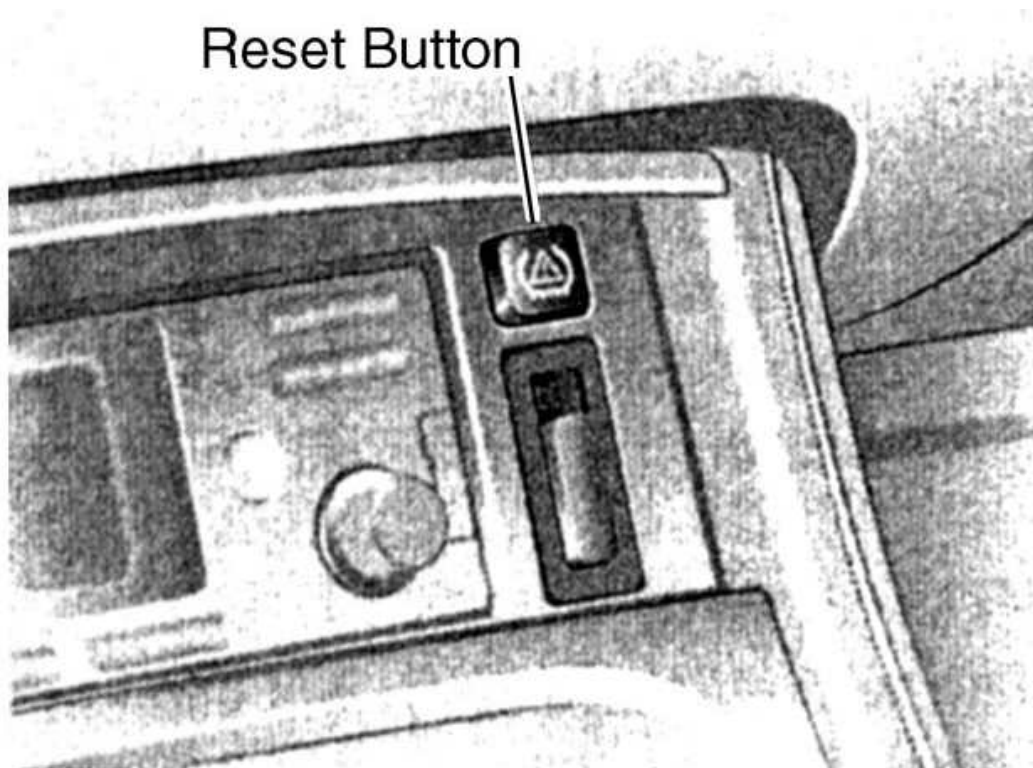

Fig. 10: Locating TPM System Reset Button (3-Series & X5 - Typical)
3. Press reset button (for no longer than 10 seconds) until tire pressure warning light illuminates Yellow for a few seconds. See Fig. 9, Fig. 10, Fig. 11 or Fig. 12 .